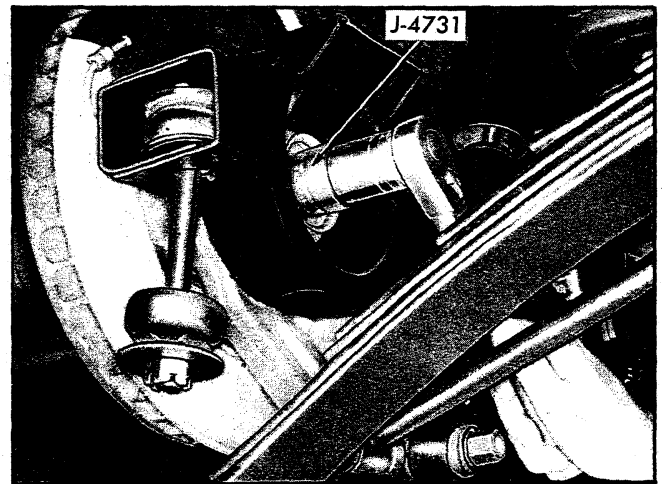

Fig. 13—Installing Drive Spindle to Support (Corvette)
- b. Position washer and spindle nut on spindle and proceed to tighten nut until bearing is forced on spindle sufficiently to allow spindle drive flange to be installed (fig. 13). Remove spindle nut, washer and Tool J-4731. Discard nut and use a new one for final assembly.